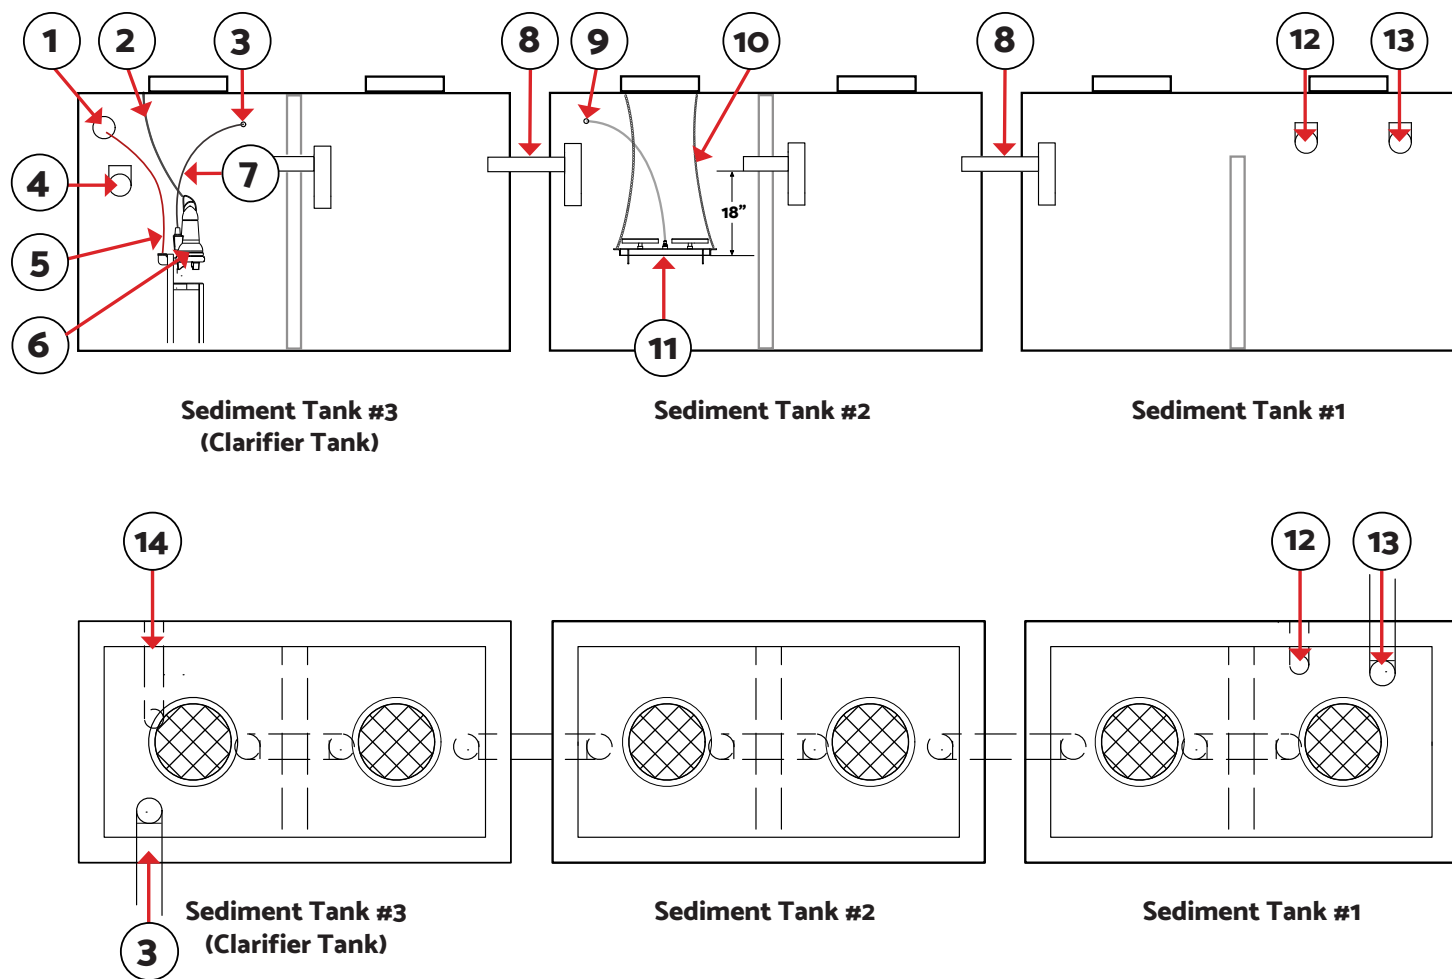
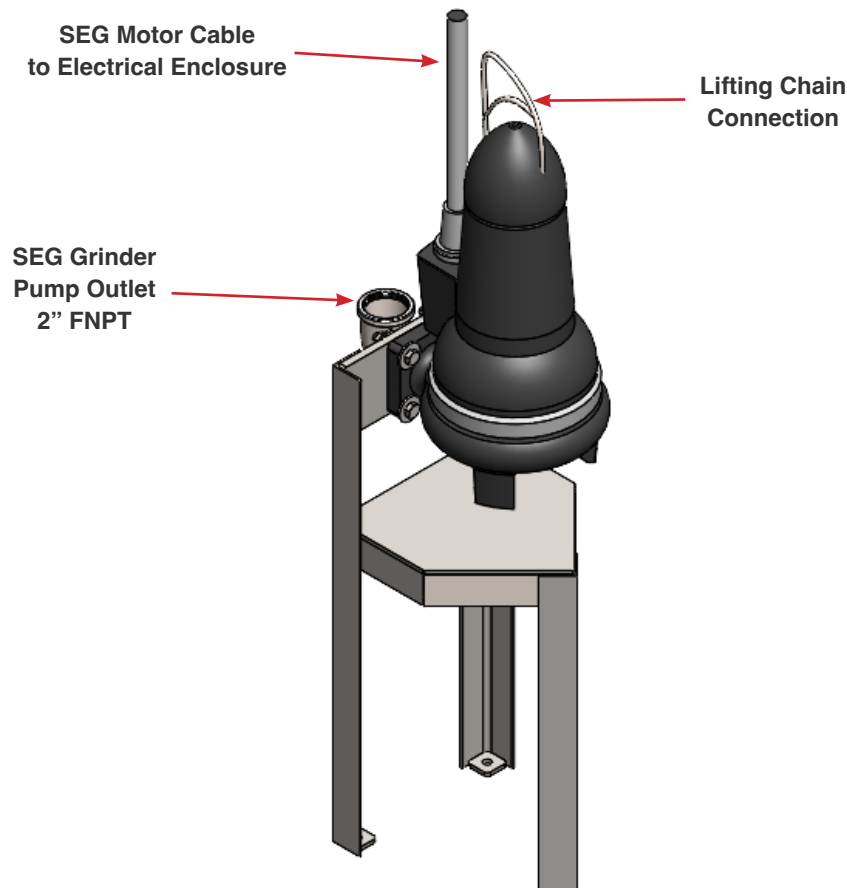

Fig. 3.2.1 - 1 - Three sediment tank configuration
Fig. 3.3.1 - 1 - Grundfos SEG Grinder Pump connection locations
It is recommended to use a minimum of (3) 2,000 gallon settling tanks with internal baffle walls (Fig. 3.2.1-1).
1. Attach 2" hose (#9 in Fig. 3.2.1 - 1) to the outlet of the SEG base using a 2" NPT hose barb (Fig. 3.3.1 - 1).
5. Route the SEG Pump motor cable to the control enclosure as shown in Fig. 3.3.1 - 2. Terminate wires per Table 3.3.1 - 1 (following page).